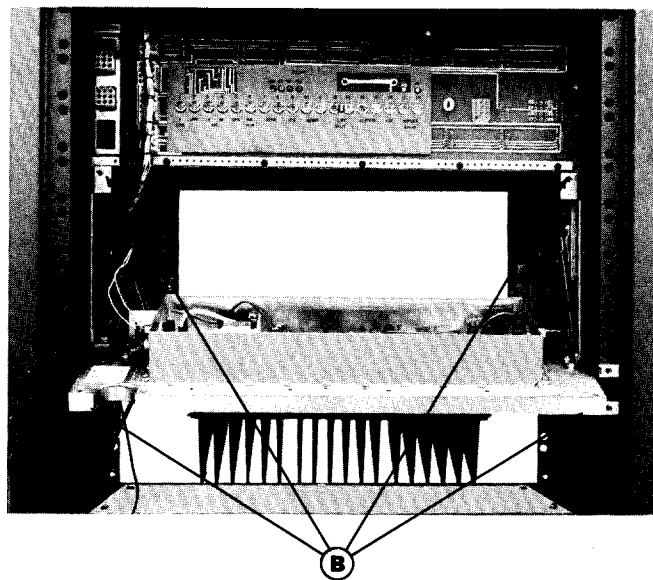

Figure 5 - Access to Power Amplifier Rear View
1. Remove the top two screws (B) on the Intermittent or Continuous Duty Power Amplifier. Refer to Figure 5.